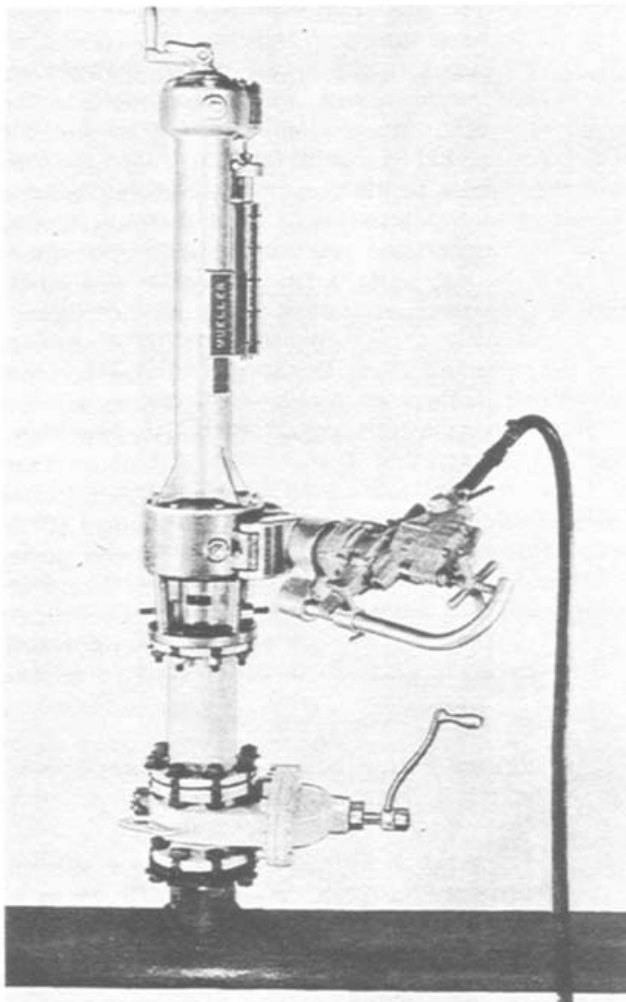

FIGURE 57
7. Place the machine and adapter in drilling position on gate valve and bolt securely to the gate valve. **Figure 57**. Check to be sure gasket is in good condition and in place.